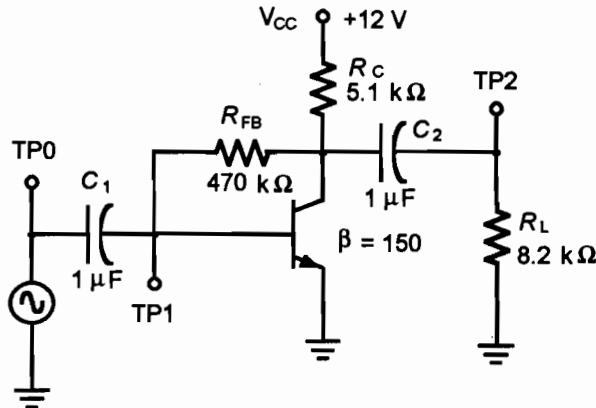

Figure 18.1
- Build the circuit of Figure 18.1. Apply +12 VDC to your circuit. Do not connect or apply the AC signal at this time. Measure and record the following DC circuit values:
1. In Figure 18.1, remove the transistor and apply power. Connect the function generator to the circuit and apply  $20 \text{ mV}_{\text{p-p}}$  at 1 kHz.
4. What is the value of  $I_{CSAT}$  for the circuit of Figure 18.1?